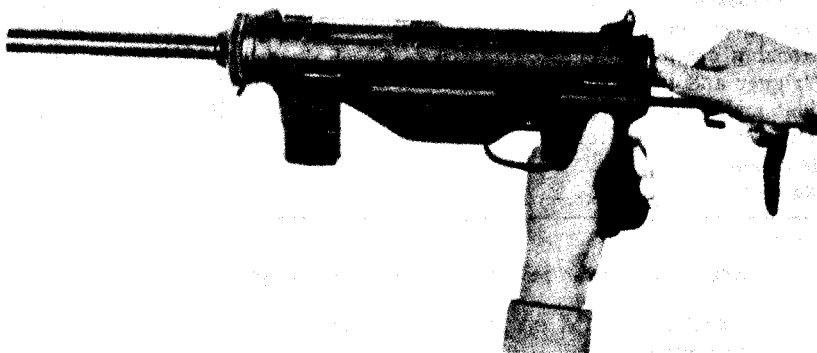

Figure 5. Press in on stock catch on the left side of the pistol grip, and remove the stock by pulling it directly to the rear.
b. To disassemble the submachinegun, follow the procedure illustrated in figures 5 through 15.